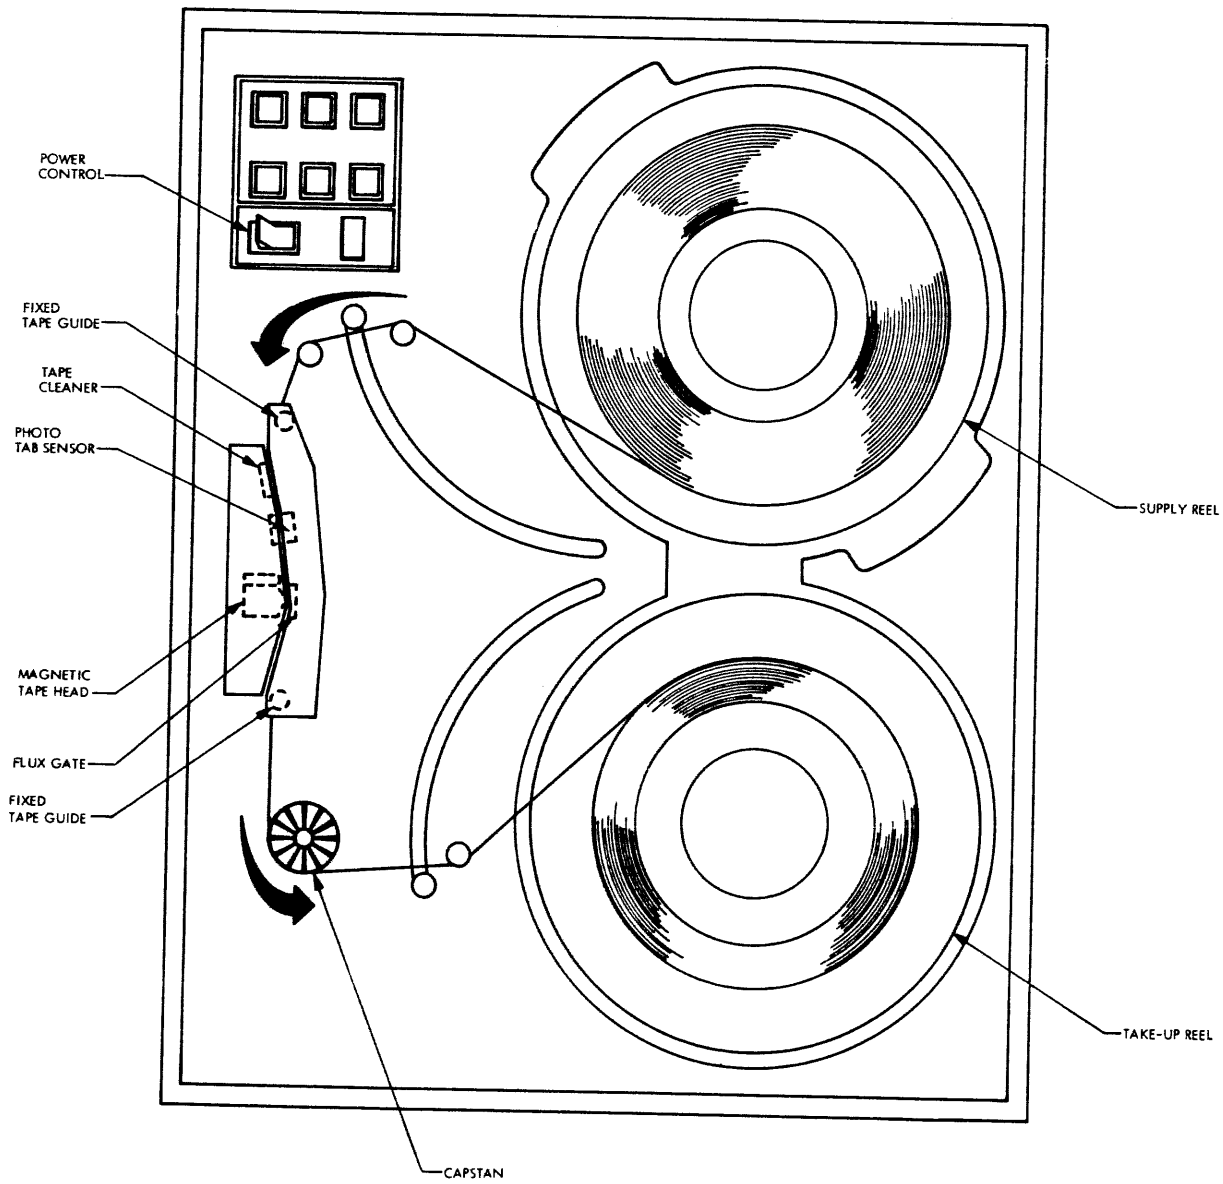

Figure 2-1. Tape Path
Figure 2-1 illustrates the path that the tape follows when loaded on the transport; it is included here for quick reference. The supply reel (tape reel to be read or written) is placed at the top of the transport next to the manual controls. Tape must unwind from the reel when it is turned clockwise. A WRITE ENABLE ring is required if the magnetic tape on the supply reel is to be written upon.
4. When the reel is properly mounted, the tape is threaded along the path shown in Figure 2-1.